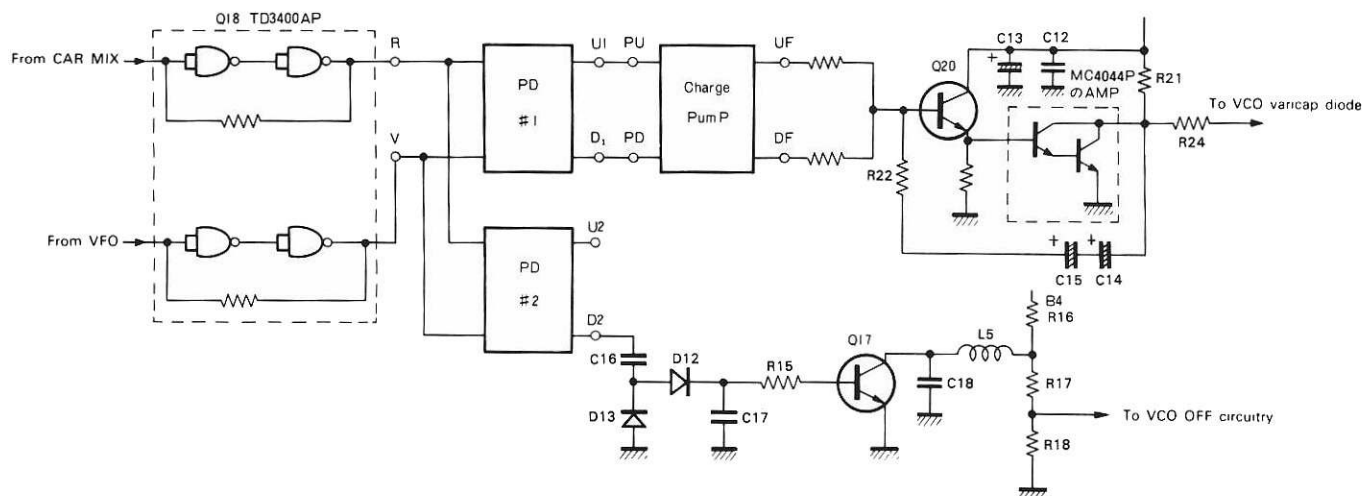

Fig. 8 TS-820 phase detector circuit
MC-4044 consists internally of a phase detector (PD), charge pump and amplifier, and it is used in this transceiver as shown in Fig. 8. The output of PD #1 is fed to the varicap of VCO through the charge pump and active filter. The output D2 of PD #2 becomes high level (constant) when either (or both) input signal is removed. By utilizing this quality, it is used as OFF circuit for VCO. If the TS-820 function is changed over to remote VFO without connecting remote VFO, PLL is not locked. Thus, under such a condition, VCO output is automatically turned OFF.